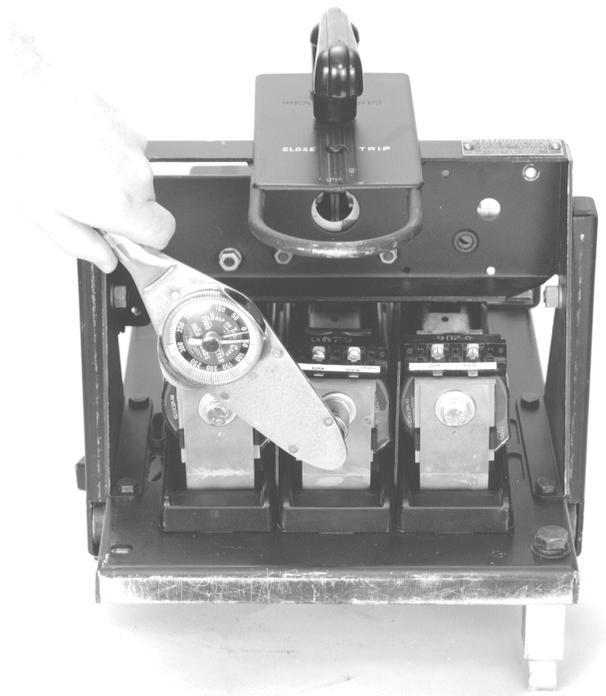

Figure 10. Tightening the CT assembly bolt.
6. Tighten the CT post bolts inserted in step 1 to 200 in-lb, as shown in Figure 10.